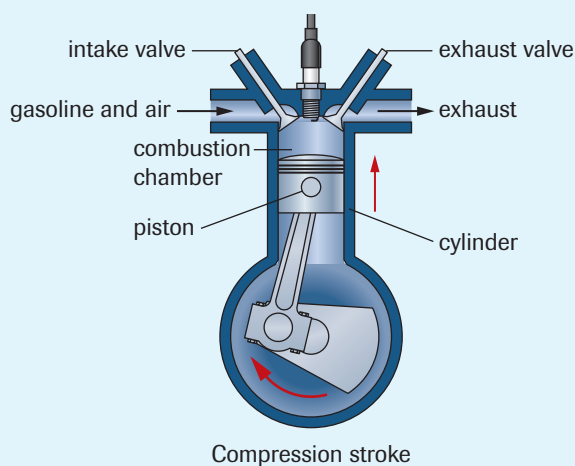

Figure 7
Low-octane gasoline, with long straight-chain molecules, burns quickly. Fuel is supposed to ignite in the cylinder as a result of a spark. The spark is timed to ignite the fuel when the piston is close to the top of its “up stroke” (see **Figure 7**). Sometimes the mixture auto-ignites as a result of the pressure in the cylinder, rather than burning when the spark is produced. If the fuel ignites earlier, high-performance vehicle engines lose some of their efficiency. They sometimes produce a knocking or pinging sound. High-performance gasoline engines require high-octane fuel, which contains more branched-chained and aromatic hydrocarbons. Higher-octane gasoline resists spontaneous (high-pressure, no-spark) auto-ignition of excess fuel. The engine runs more smoothly, and is less likely to be damaged or lose efficiency.
- Knocking occurs when compression ignites fuel during the power stroke that did not ignite initially from the spark provided by the spark plug (**Figure 7**). Write line structural formulas for the following hydrocarbons in the internal combustion engine.